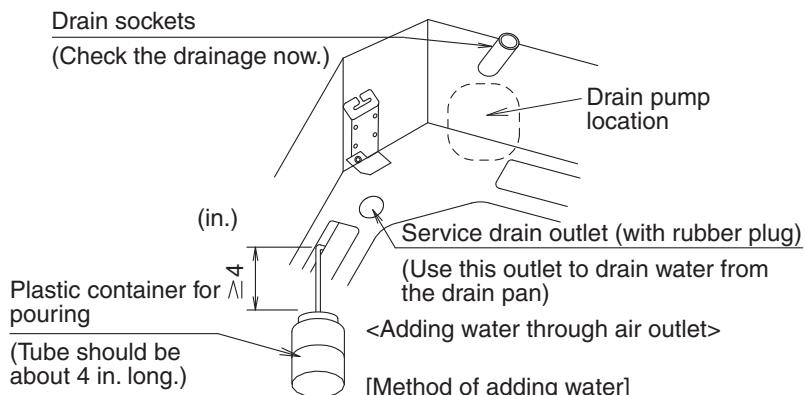
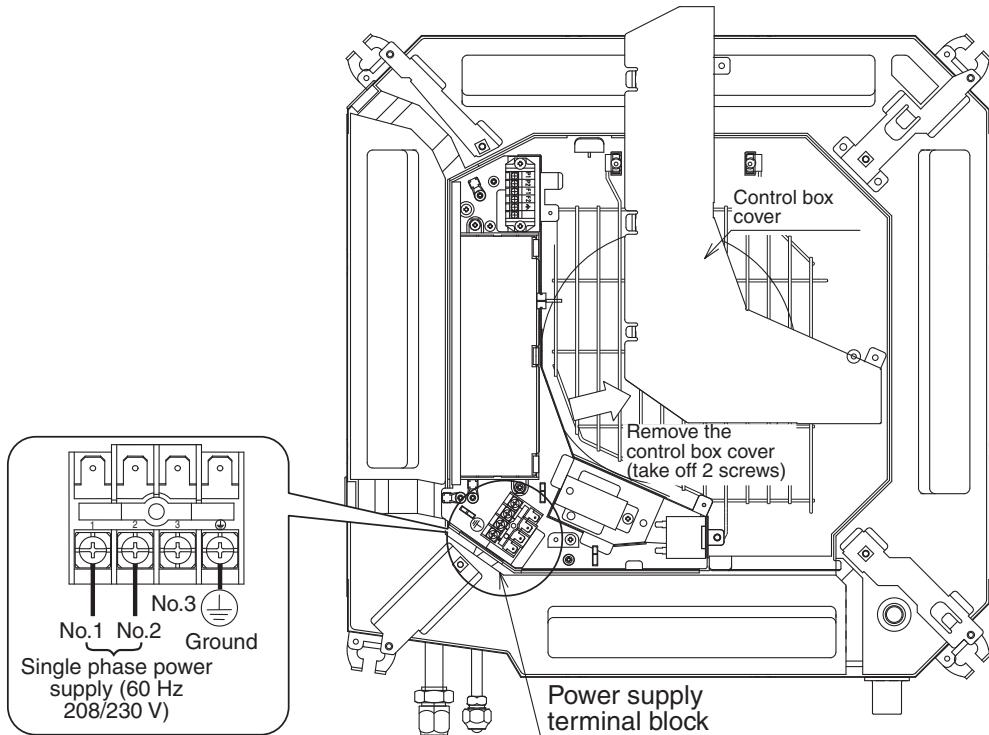

Fig. 23
Fig. 24
- After confirming drainage (Fig.23, Fig.24), turn off the power supply and remove the power supply wiring.